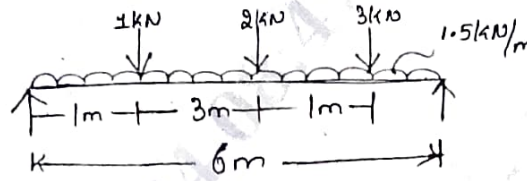

Fig.Q7(b)
- b. Draw SFD and BMD for the Fig.Q7(b) given below.